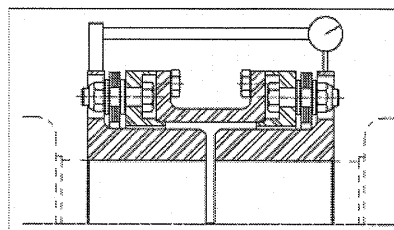

Figure 3
- E. **Parallel Offset.** Rigidly mount a dial indicator on one hub or shaft, reading the other hub flange outside diameter, as shown in Figure 3. Compensate for indicator set-up sag. Rotate both shafts together. Adjust the equipment by shimming and/or moving so that the indicator reading is within .001 inch per inch of the axial length between flex elements. See Chart (A).